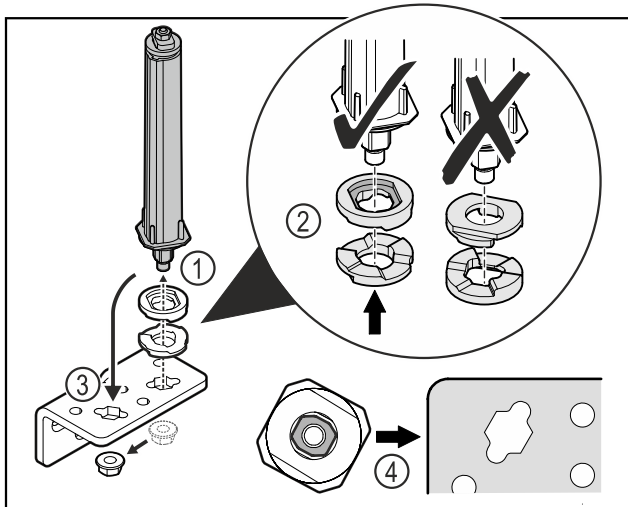

Fig. 16
- Loosen the nut and remove the door closing system Fig. 16 (1).
- Observe the correct alignment of the height adjustment washers Fig. 16 (2).
- Put the door closing system in the hinge and fix in place with the nut Fig. 16 (3).
- Observe the correct alignment of the door closing system when doing so Fig. 16 (4).